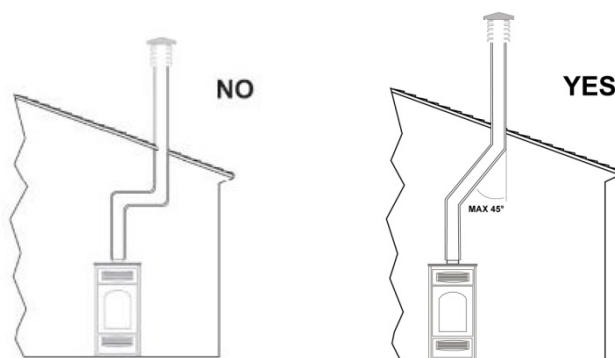

Fig 2
- The internal section must be uniform, preferably circular: the square or rectangular sections must have rounded corners, curves must be regular and seamless, deviations from the axis no greater than 45° (Fig. 2).